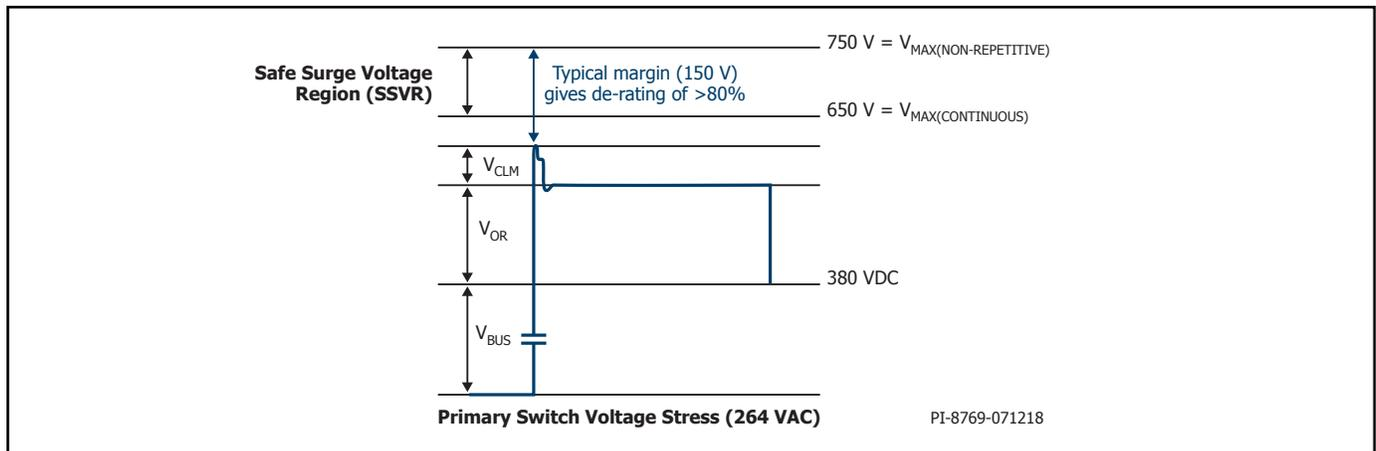

Figure 21. Peak Drain Voltage for 264 VAC Input Voltage (Applicable for LYT6078C, LYT6079C and LYT6070C).
4. A series connection of a small resistor and ceramic capacitor ($<22\ \text{pf}$) across the primary (Figure 21) or across the secondary winding ($<100\ \text{pf}$) reduces conducted and radiated EMI. Larger capacitor values may increase no-load consumption.
For a flyback converter configuration, typical voltage waveform at the DRAIN pin of the IC is shown in Figure 21.
In addition to $V_{BUS} + V_{OR}$, the drain also sees a large voltage spike at turn off that is caused by the energy stored in the leakage inductance of the primary winding. To keep the drain voltage from exceeding the rated maximum continuous drain voltage, a clamp circuit is needed across the primary winding. The forward recovery of the clamp diode will add a spike at the instant of turn-OFF of the primary switch. V_{CLM} in Figure 21 is the combined clamp voltage including the spike. The peak drain voltage of the primary switch is the total of V_{BUS} , V_{OR} and V_{CLM} .